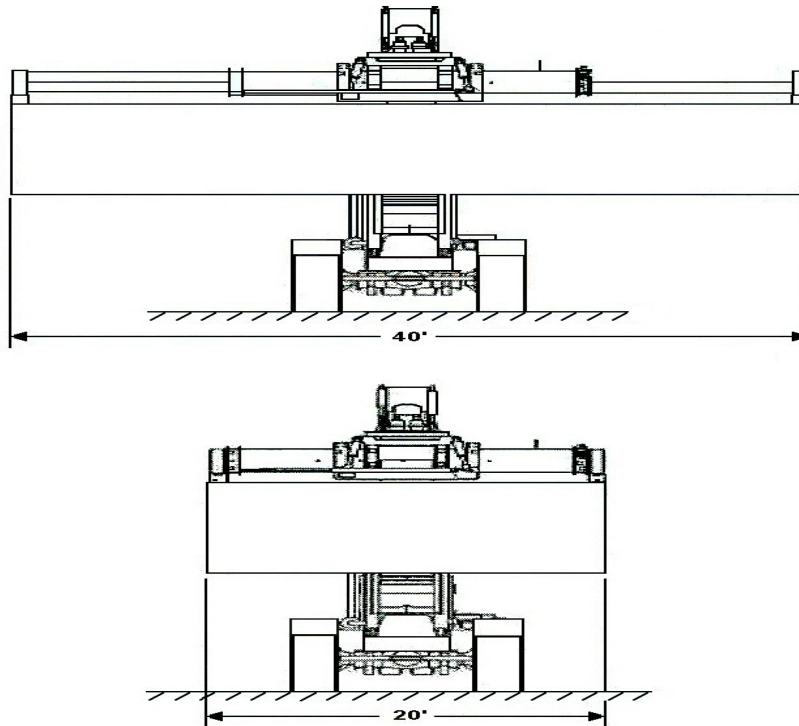

Figure 3-79
- a. Adjust the tophandler spreader width 20 to 40 feet for the container to be lifted (see Figure 3-79).